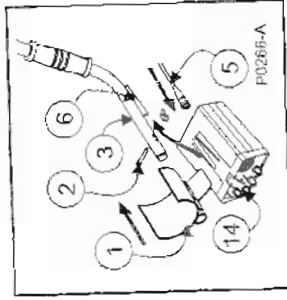

Figure 6 - Mounting the control box to the rear of the shaft
In order to mount the control box (14) in this position the armrest must first be moved to the second hole from the rear of the shaft (see Fig. 6) This position provides easy access to the shaft "V" clip (6) provided. Continue to connect the control box as described above.